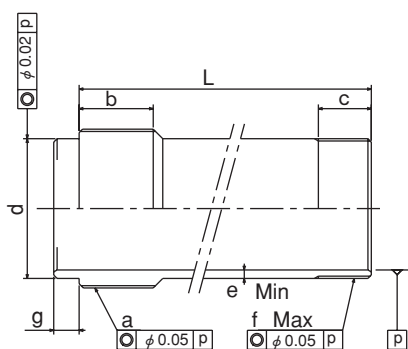

Fig. 13
The dimension L in Fig. 13 is determined from the distance A between the cylinder adapter and the back plate.
- Keep the dimension e and the dimension f in Fig. 13 for the draw pipe and a material with the tensile strength 380MPa (38kgf/mm2) or more must be used.